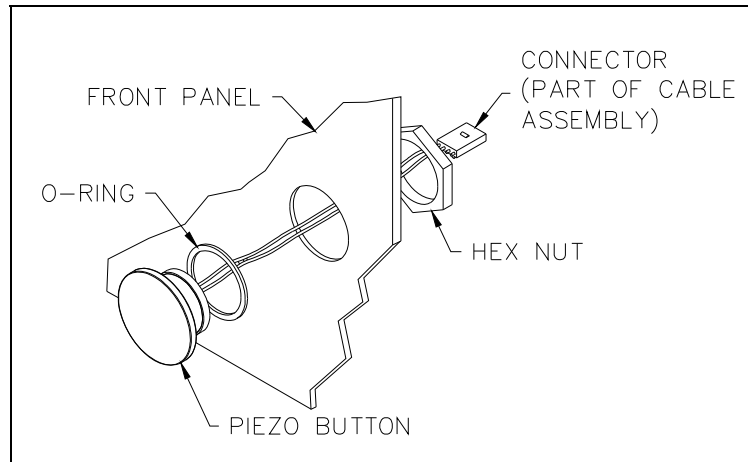

Figure 1. Piezo Push-Button Switch Assembly, Exploded View
8. Using the 1-1/4 inch box wrench, loosen the hex nut. See Figure 1 for location.
2. From the front side of the panel, push the new push-button assembly through the hole. See Figure 1.
3. Secure the piezo switch assembly to the front cover using the hex nut. See Figure 1.
10. Using the 1-1/4 inch box wrench, loosen the hex nut. See Figure 1.